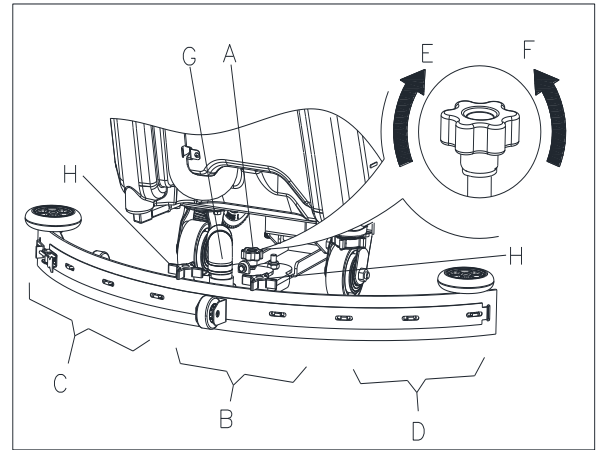

Figure 11
1. Install the squeegee and tighten up the nuts (H, Figure 11), then connect the vacuum hose (G) to the squeegee.
2. Adjust the squeegee by squeegee adjusting handle (A, Figure 11).
- a) If there is gap between the ground and middle section of rear squeegee blade (B), adjust the knob (A) in counterclockwise direction (F) until all sections of the rear squeegee blade make good contact with the ground, the front blade touches the ground slightly.
- b) If there is gap between the ground and both end section of rear blade (C and D), adjust the knob (A) in clockwise direction (E) until all sections of the rear squeegee blade make good contact with the ground, the front blade touches the ground slightly.